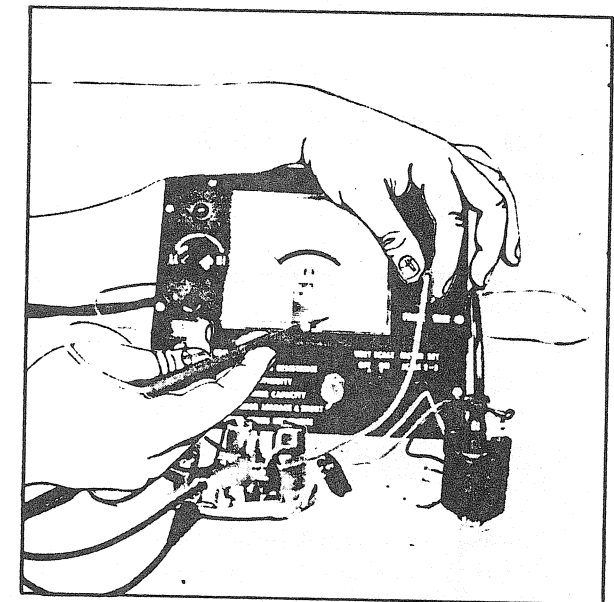

FIGURE 6
- Plug insulation test probe into "jack" on front of tester. (Fig. 6).